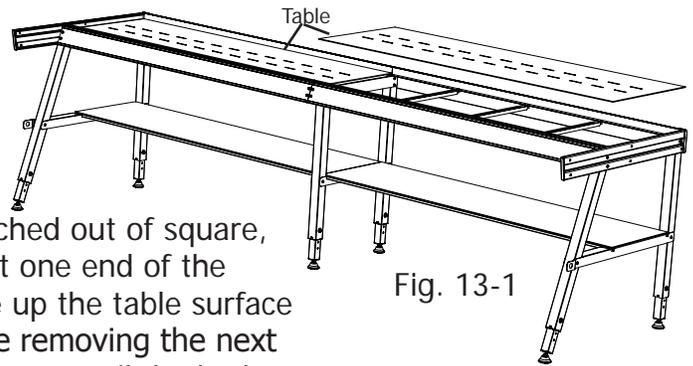

Fig. 13-1
**NOTE:** To prevent the table surface from being attached out of square, begin removing the backing from the tape, starting at one end of the Frame removing it only in one (1) foot sections. Line up the table surface with the table braces, and press firmly in place before removing the next one (1) foot section of tape backing. Repeat this process until the both table surfaces are attached.
**13-1:** Attach the plastic table, **with the textured surface side UP** to the table braces using the pre-installed double sided tape, as shown in Fig. 13-1.